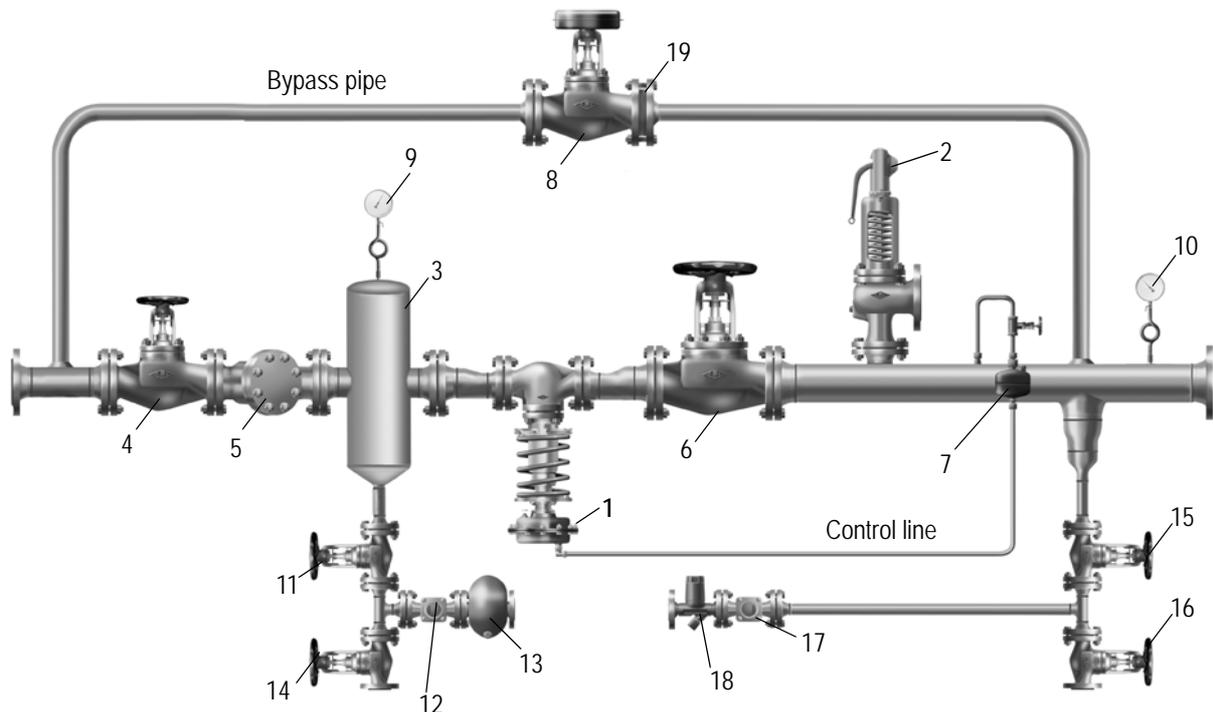

Fig. 1
In a pressureless state the valves (pos. 4 and 6) before and behind the pressure reducing valve are fully open, the bypass valve (pos. 8) is closed. The media passes through the plant from the inlet to the outlet. The pressure behind the pressure reducing valve is converted to the actuator over the control line (see Fig. 1).